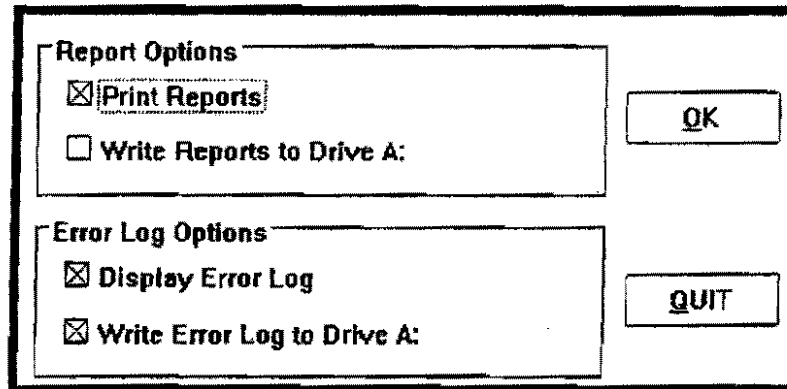

Figure 12.5 Options Dialog Box
1. Select **Set Processing Options** in the Options menu to display the dialog box shown in Figure 12.5. Current options are marked with an X in the check box. Deselect an option to turn it off; select an option to turn it on.